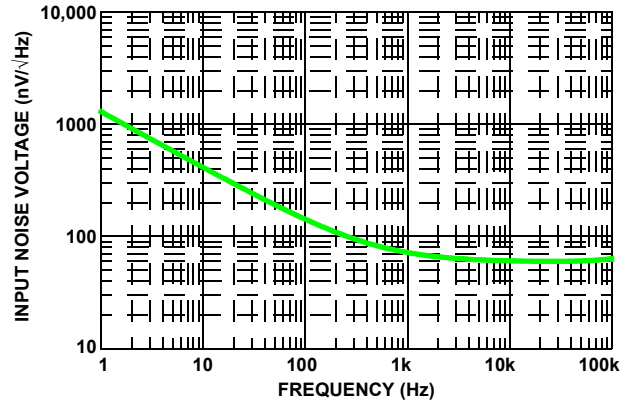

FIGURE 24. SIMULATED INPUT NOISE VOLTAGE
| 3/23/10  | FN6728.4 | <p>Page 1, 2nd paragraph - Added "...SOT23-8 packages..." and changed "S08" to "SOIC8".Also global, changed S08 to SOIC8</p> <p>Pg 2, Ordering Information table: Part # ISL28213FEZ changed to ISL28213FHZ and Part Marking changed to "TBD"</p> <p>-Added Related Literature on page 1, updated ordering information by adding Eval boards.-Added to ordering information part number ISL28213FHZ 8 Ld SOT-23 Package as coming soon.-Replaced Figure 24 Simulated Input Noise Voltage with following changes:Y-axis from "10 to 100" to "10,000 to 10"Removed (A) AC sims.dat (active) from top of graphCurve changed to improve noise performanceMade changes to Spice Net List as follows:-Changed Revision from "C" to "D" and added improved noise performance to Revision line.-Changed in Voltage Noise"V_V9 29 0 .00035" to "V_V9 29 0 0.45""R_R21 28 0 800E3 TC=0,0" to "R_R21 28 0 30"-Removed TC=0 in Input Stage from R_R1 through C_Cin2-Removed TC=0 in 1st Gain Stage from R_R9 through R_R12-Removed TC=0 in 2nd Gain Stage from R_R13 through C_C3-Changed in Common Mode Gain Stage with Zero"G_G5 V++ VC VCM VMID 2.5118E-10" to "G_G5 V++ VC VCM VMID 0.25118""G_G6 V- VC VCM VMID 2.5118E-10" to "G_G6 V- VC VCM VMID 0.25118"Removed TC=0 from R_R16 through R_R23-Changed in Pole Stage"G_G7 V++ 23 VG VMID 188.49e-6" to "G_G7 V++ 23 VG VMID 0.18849""G_G8 V- 23 VG VMID 188.49e-6" to "G_G8 V- 23 VG VMID 0.18849"Removed TC=0 from R_R17 through C_C5Removed TC=0 in Output Stage with Correction Current Sources from R_R19 and R_R20Made changes to Spice Schematic Figure 21 as follows:-Input Stage - Modified connection to the EOS (voltage control voltage source)-Added to Thermal Information 8 LD SOT-23 as TBD-Added to pin configuration for the ISL28213 8 Ld SOT-23</p> |